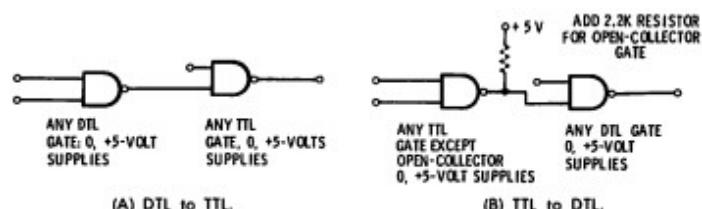

Fig. 1-13. DTL-TTL interfacing circuits.
**DTL**-DTL to TTL and back again are usually directly compatible (Fig. 1-13). Consult data sheets for fan-out information.